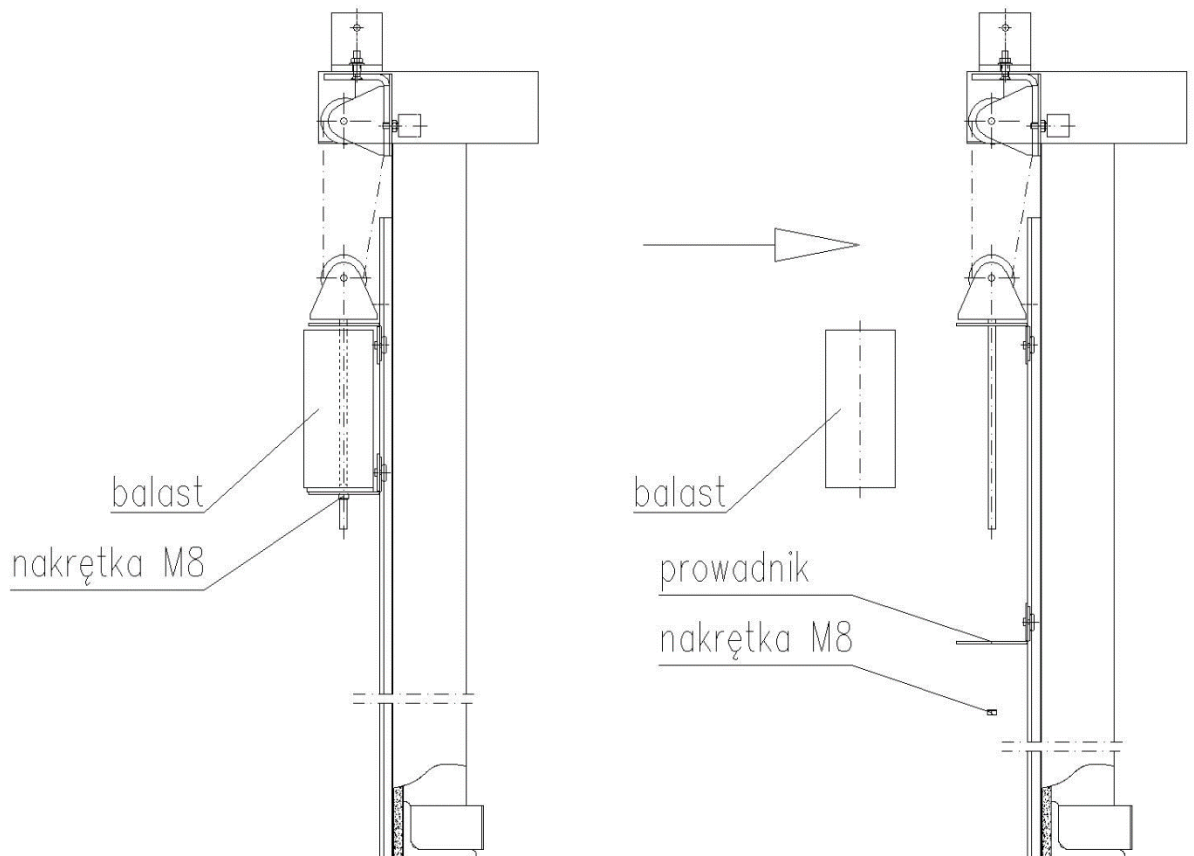

Figure 3: Front module - ballast removal
**Note:** If the ballast weight makes it impossible to install the front module successfully, remove the ballast by loosening the M8 nut (Fig. 3).